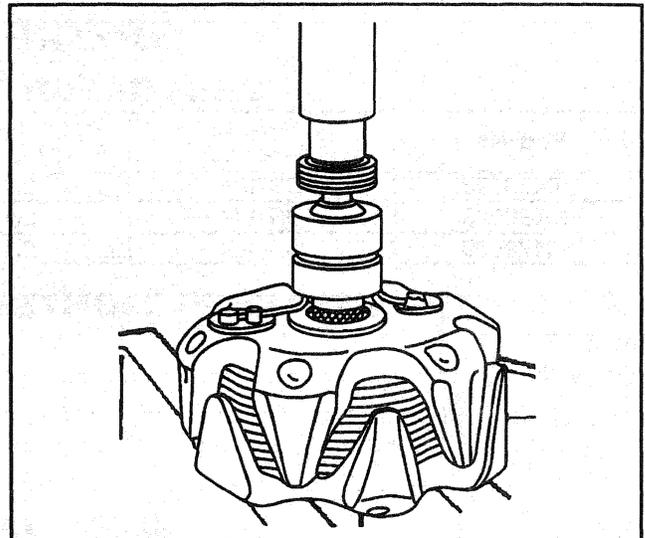

Figure 15—Installing the Slip Ring End Bearing
3. New slip ring end bearing onto the rotor shaft or into the drive end housing (Figure 15).